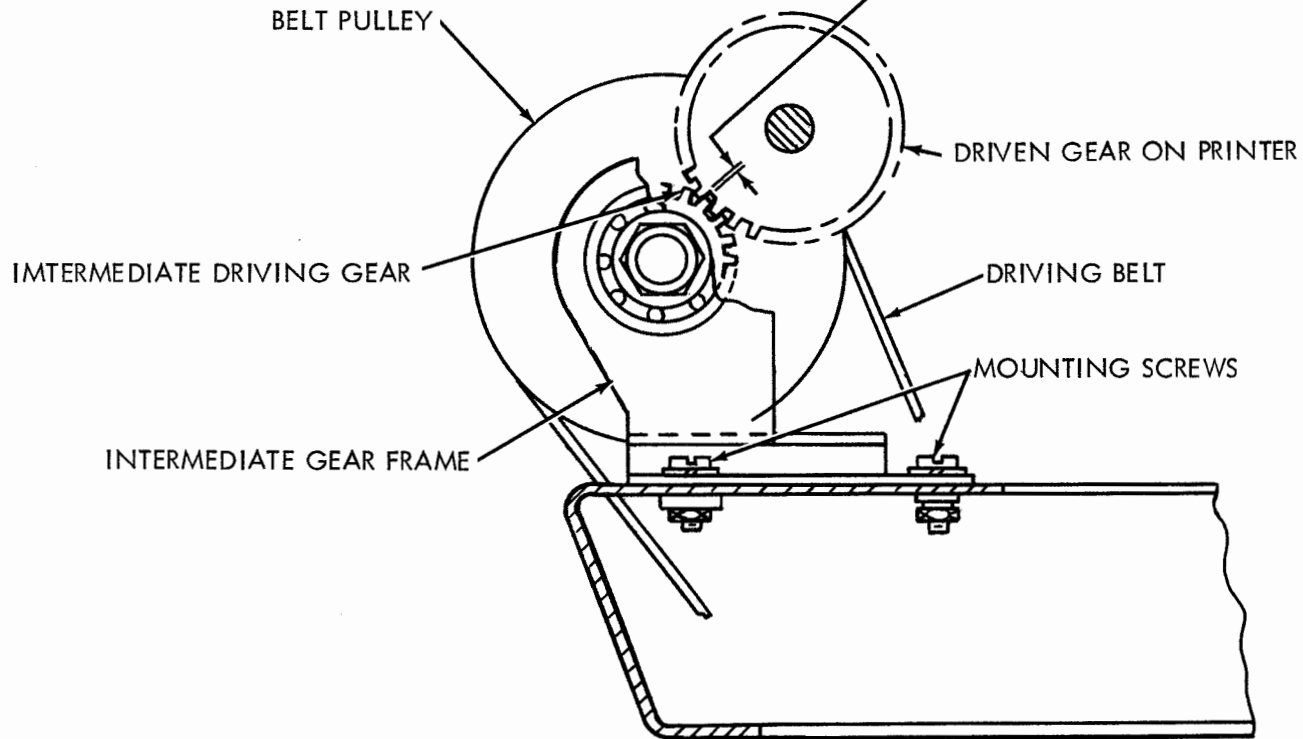
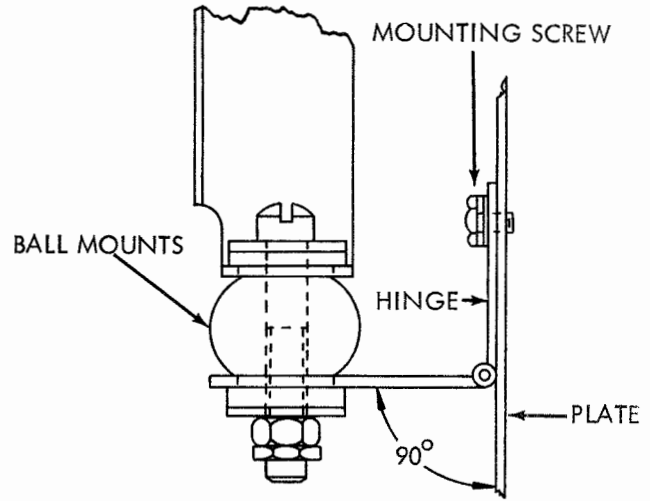

Figure 4 - Intermediate Gear Assembly Adjustment
Figure 6 - Hinge Mount Adjustment
(1) Adjust the intermediate gear assembly and the timing belt as indicated in Figures 4 and 5.
(2) Remove the typing unit from the keyboard (or base) in preparation for installing the keyboard (or base) on the back plate assembly.
b. With the keyboard (or base) and typing unit in place, adjust the two support hinges near the base of the back plate assembly as indicated in Figure 6.